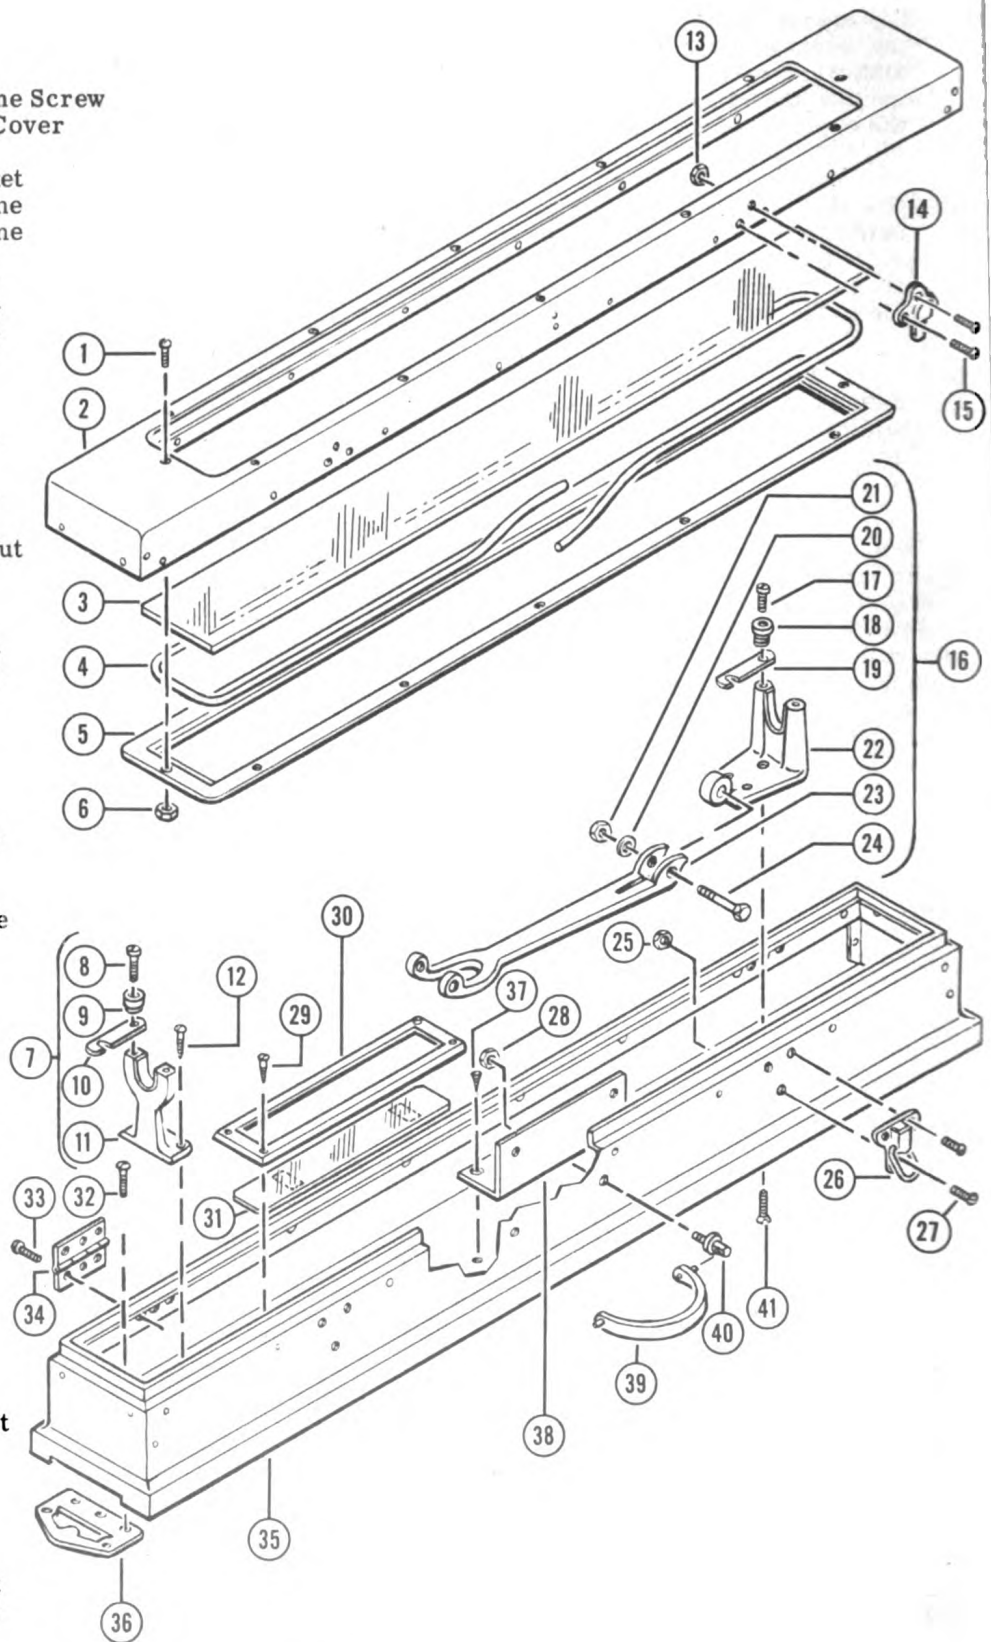

Figure 61
87. Assemble a case wall bracket at each end of the barometer case (bottom half). Use three wall bracket screws to secure each bracket in place. See the exploded view, Fig. 61.
88. Place the reflector glass in the barometer case (bottom half) with the two felt pads attached to the reflector glass facing downwards. Assemble the reflector holder over the reflector glass with the four reflector holder screws. See the exploded view, Fig. 61.
90. Assemble the two handle pivot posts on the ends of the case handle. Slide the threaded portions of the handle pivot posts into the holes provided for them in the barometer case (bottom half). Using the pivot post nut wrench (Tool No. 8), assemble the two handle pivot post nuts on the handle pivot posts. See the exploded view, Fig. 61, and refer to the "Special Service Tool List" in Section VIII for details of the special tool used here.
91. Assemble each of the two lower fasteners to the barometer case (bottom half) with three fastener screws. A fastener screw nut is to be assembled on the bottom fastener screw of each lower fastener. Use the cover glass frame and fastener nut wrench (Tool No. 7) to tighten these nuts. See the exploded view, Fig. 61, and refer to the "Special Service Tool List" in Section VIII for details of the special tool used here.
92. Assemble each of the three case hinges to the barometer case (bottom half) with three hinge retaining screws. See the exploded view, Fig. 61.
This completes the assembly of the gimbal arm and support assembly. See the exploded view, Fig. 61, and refer to the "Special Service Tool List" in Section VIII for details of the special tool used here.
94. Assemble the gimbal arm and support assembly in the barometer case (bottom half) with the three lower barometer support screws. See the exploded view, Fig. 61.
support latch to the upper barometer support, using the two latch knob screws on which the latch knobs have been assembled. This completes the assembly of the upper barometer support assembly. See the exploded view, Fig. 61.
96. Assemble the upper barometer support assembly in the barometer case (bottom half) with the two upper barometer support screws. See the exploded view, Fig. 61.
97. Assemble each of the two upper fasteners to the barometer case cover in a similar manner as outlined for the two lower fasteners in Operation 91. See the exploded view, Fig. 61.
cover with twelve cover glass frame screws and nuts. Use the cover glass frame and fastener nut wrench (Tool No. 7) to tighten the nuts. See the exploded view, Fig. 61, and refer to the "Special Service Tool List" in Section VIII for details of the special tool used here.
99. Place the barometer case cover over the barometer case (bottom half) and align the holes in the case hinges with those in the cover for the hinge retaining screws. Assemble three hinge retaining screws in each of the case hinges. See the exploded view, Fig. 61.